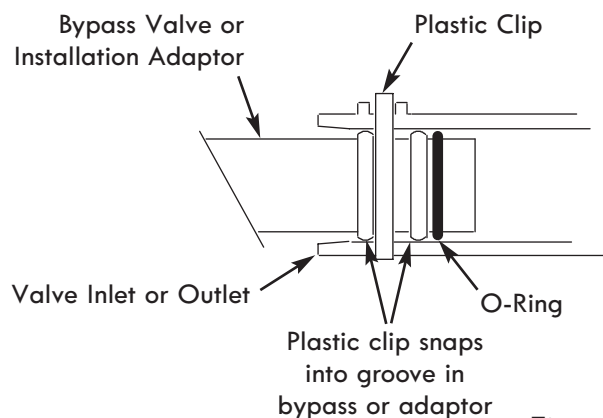

Figure 7
6. Lightly coat the o-rings with silicone grease and slide them onto the bypass valve. Push the bypass valve into the softener valve's inlet and outlet ports as far as it will go. Snap the two large holding clips into place, from the top down as shown (see Fig. 7).
7. Lightly coat the o-rings with silicone grease and slide them onto the installation adaptors. Push the adaptors into the valve inlet and outlet ports, or bypass valve ports, as far as they will go. Both adaptors are the same and fit either port. Snap the two large holding clips into place, as shown (see Fig. 7).